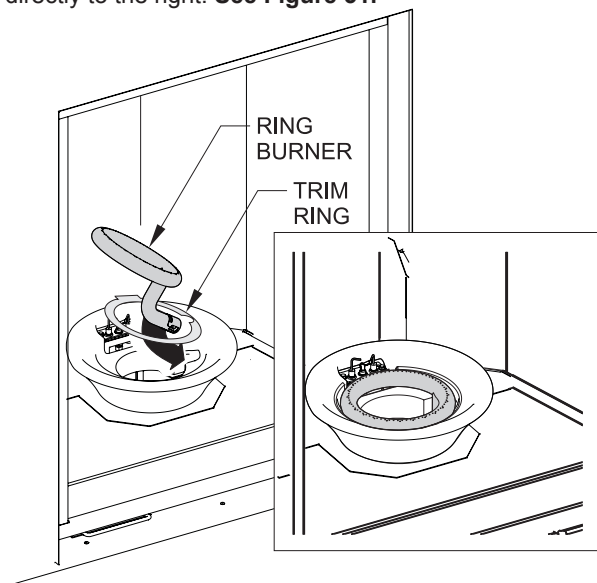

Figure 51
5. Insert Trim Ring and Ring Burner into Media Vessel. Look through the perforated floor material to fit the air shutter over the orifice holder. The Ring Burner air shutter will point directly to the right. **See Figure 51.**